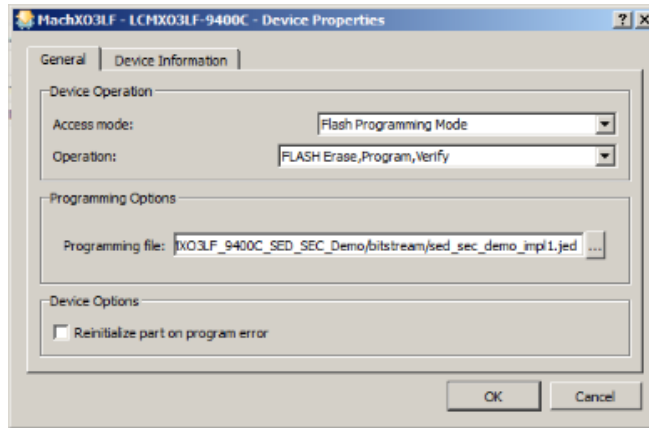

Figure 6.3. Setting Device Properties
5. Set device properties as shown in Figure 6.3. In the Device Properties dialog box, select **Flash Programming Mode** in Access mode and **Flash Erase, Program, Verify** in Operation. Select the bitstream file `\bitstream\sed_sec_demo_impl1.jed` in Programming file. Click **OK**.